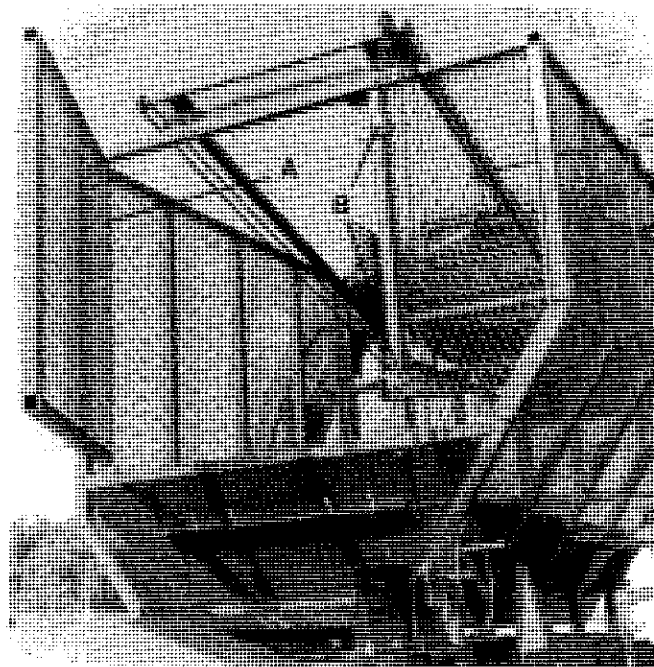

FIGURE 33 - ACCESS DOOR IN HOLDING TANK
An access door (A) is provided in the holding tank (see figure 33). This door is opened by loosening latches (B) and moving them outward to release door.